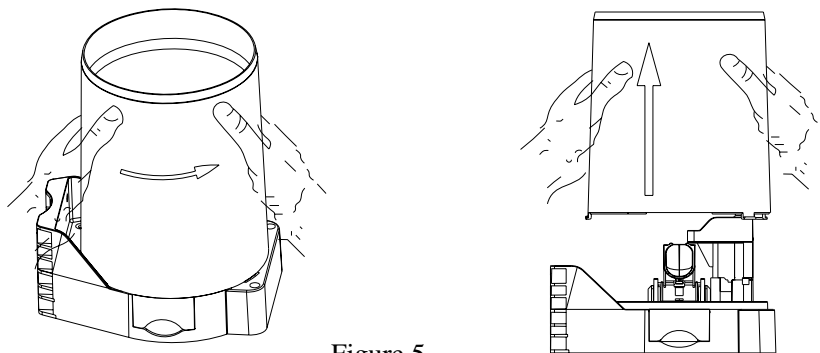

Figure 5
4.3.2 Insert batteries into the rain gauge transmitter. Rotate and detach the upside bucket, arrow direction as show in figure 5.